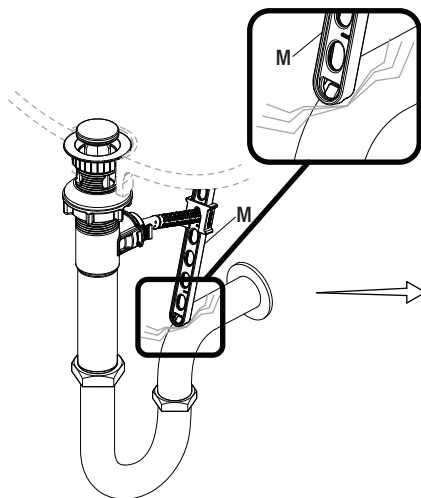

Fig. 1
- If the pop up lift rod strap (M) is interfering with your installation, as shown in Fig. 1, the lift rod strap (M) can be cut shorter.